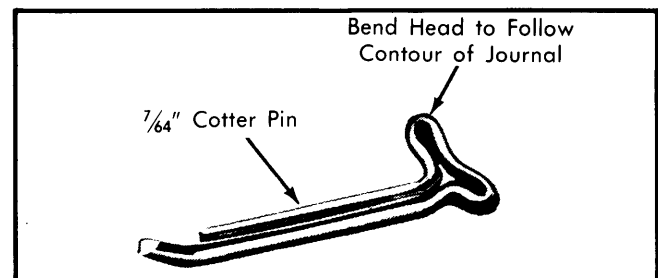

Fig. 6 Fabricated Upper Main Bearing Removal and Installation Tool
2) Insert upper main bearing insert removal and installation tool in oil hole in crankshaft journal. If tool is not available, tool may be fabricated from a 7/64" cotter pin. See Fig. 6.